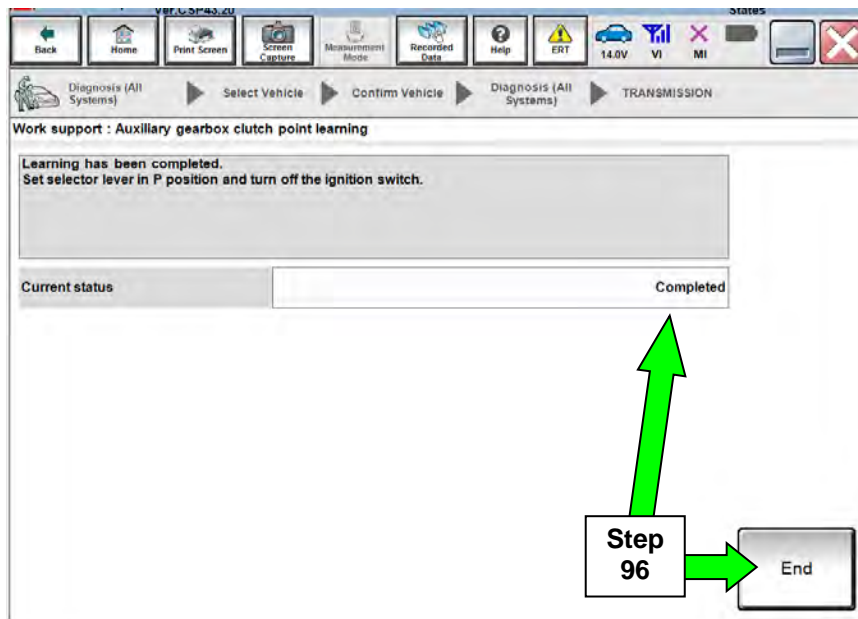

Figure 54
95. Continue to depress the brake pedal until the Current status shows “Completed” as shown in Figure 54 on page 136.